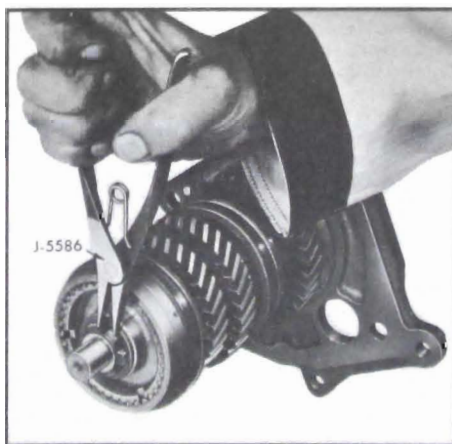

Figure 4-60—Removing Mainshaft Front Snap Ring
18. Remove mainshaft front snap ring (see Figure 4-60), and slide third and fourth speed clutch assembly, third speed gear and synchronizing ring, second and third speed gear thrust washer (needle roller bearing), second speed gear and second speed synchronizing ring from front of mainshaft.